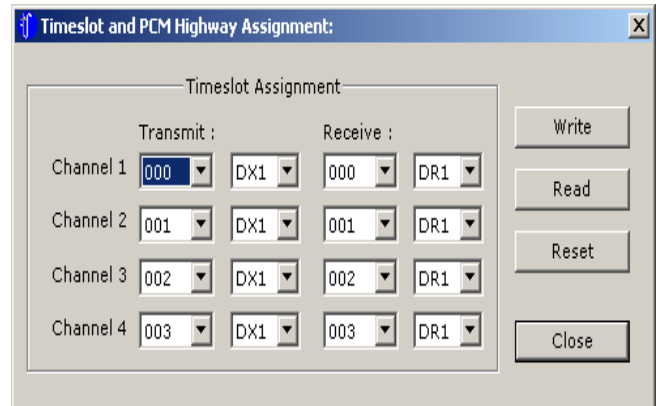

FIGURE 9. TIMESLOT & PCM HIGHWAY ASSIGNMENT SCREEN
This test will demonstrate an end to end phone conversation between Channel 1 and Channel 2. Setting up an end to end phone conversation is accomplished with the Timeslot and PCM Highway Assignment screen (Figure 9). The user can select any time slot for Channels transmit and receive. If the time slot assigned to the receive path of Channel X is the same one assigned to the transmit path of Channel Y, and the time slot assigned to the transmit path of Channel X is the same one assigned to the receive path of Channel Y, then Channel X and Channel Y can communicate with each other.
- From GCI Software screen, in the GCI General Setting section, select Linear mode. This will enable you to select Time Slot. Click on the Time Slot button. The Timeslot and PCM Highway Assignment screen will appear (Figure 9).